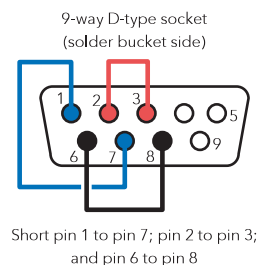

Figure B1.6.3
Touching one of these keys performs a loopback test on the relevant Serial port. In order for the test to be successful, a 9-way D-type socket, wired as in figure B1.6.3, must be fitted to the relevant serial port at the rear of the recorder. If wired as shown, the socket is suitable for testing with both EIA232 and EIA485 communications standards. The test will result in the legend 'S1(2) Passed' or 'S1(2) Failed' replacing 'Serial 1' or 'Serial 2' on the appropriate key. If the Serial Comms option is not fitted, pressing either key returns a 'Failed' message.